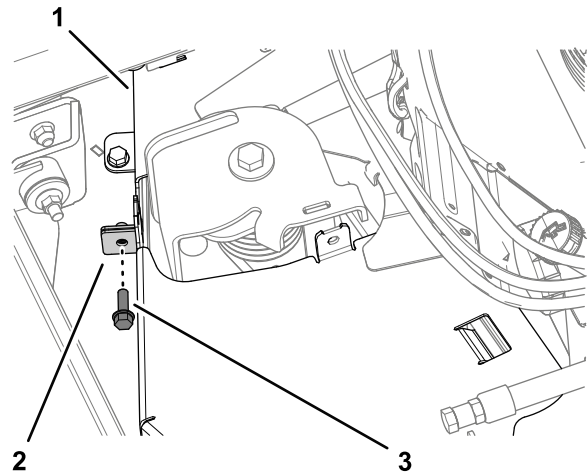

Figure 44
3. Secure the belt cover flanges with the flange-head screw (Figure 44) that you removed in Removing the Left Belt Cover (page 26).